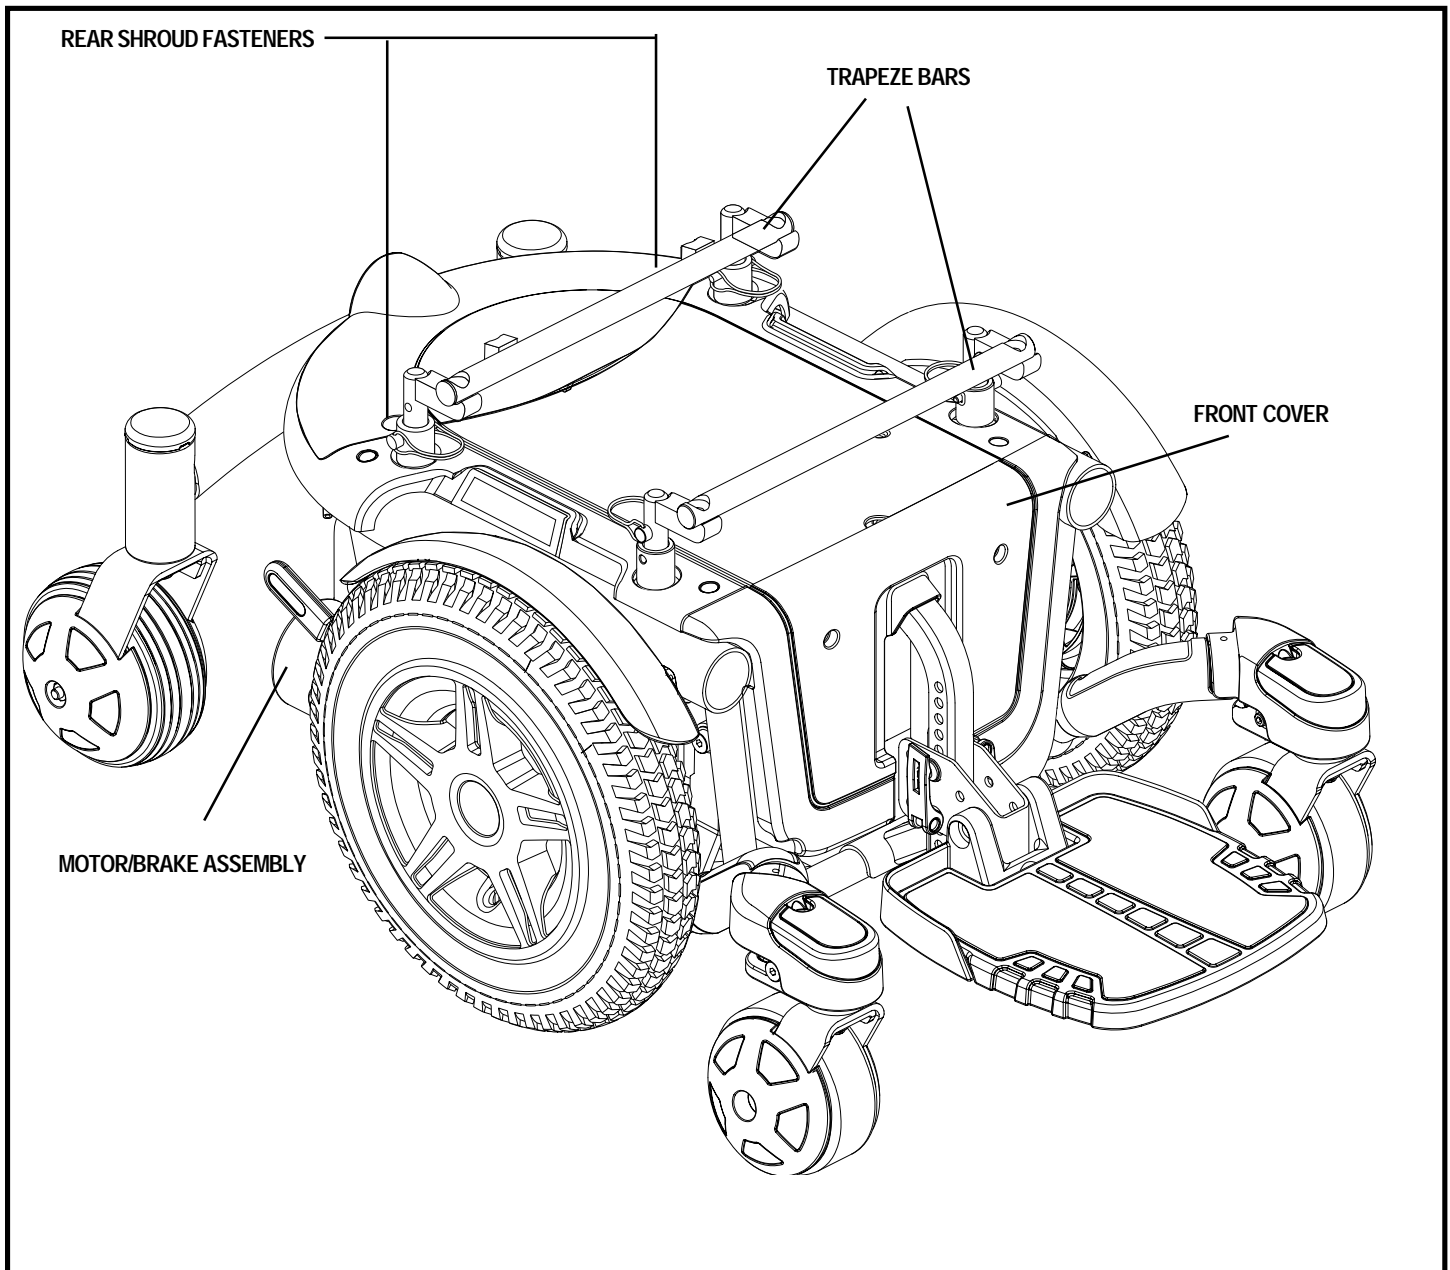

Figure 6. The Quantum 500 Power Base
4. Loosen the rear shroud fasteners and remove the rear shroud. See figure 6.
5. Plug the controller connector(s) into the power base. See figure 6.
2. Loosen the rear shroud fasteners and remove the rear shroud cover. See figure 6.